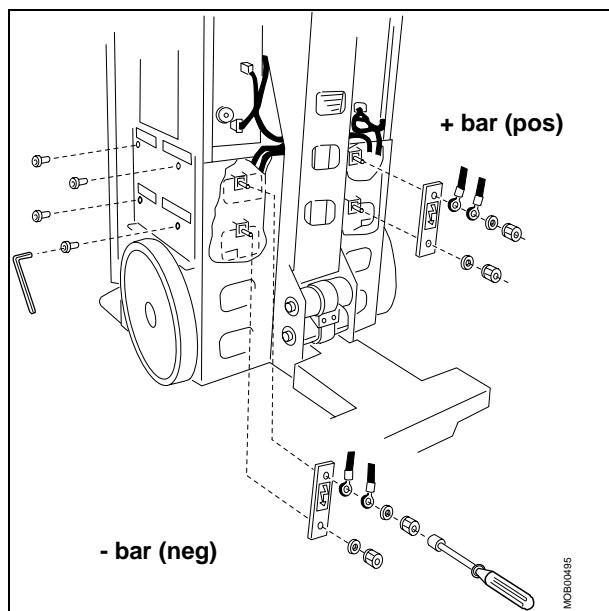
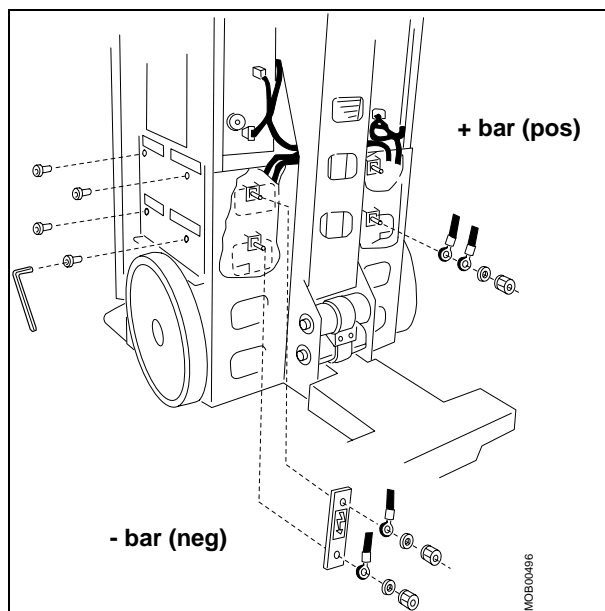

Fig. 5 MOBILETT Plus/ Plus M
Fig. 6 MOBILETT Plus E
- Remove the main bars (Fig. 5 for MOBILETT Plus/ Plus M and Fig. 6 for MOBILETT Plus E).